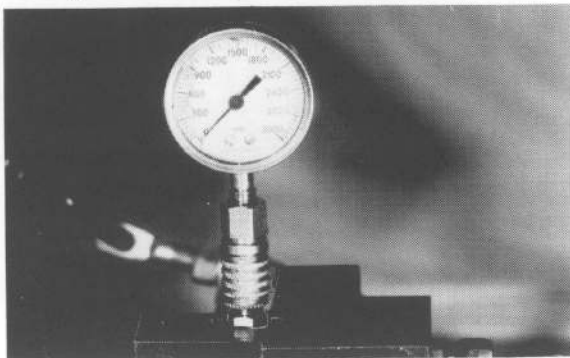

Figure 1-8
1. Remove the hydraulic fitting located at the top of the U-Valve assembly (remove the UP hose connected to the fitting first). See Figure 1-8.